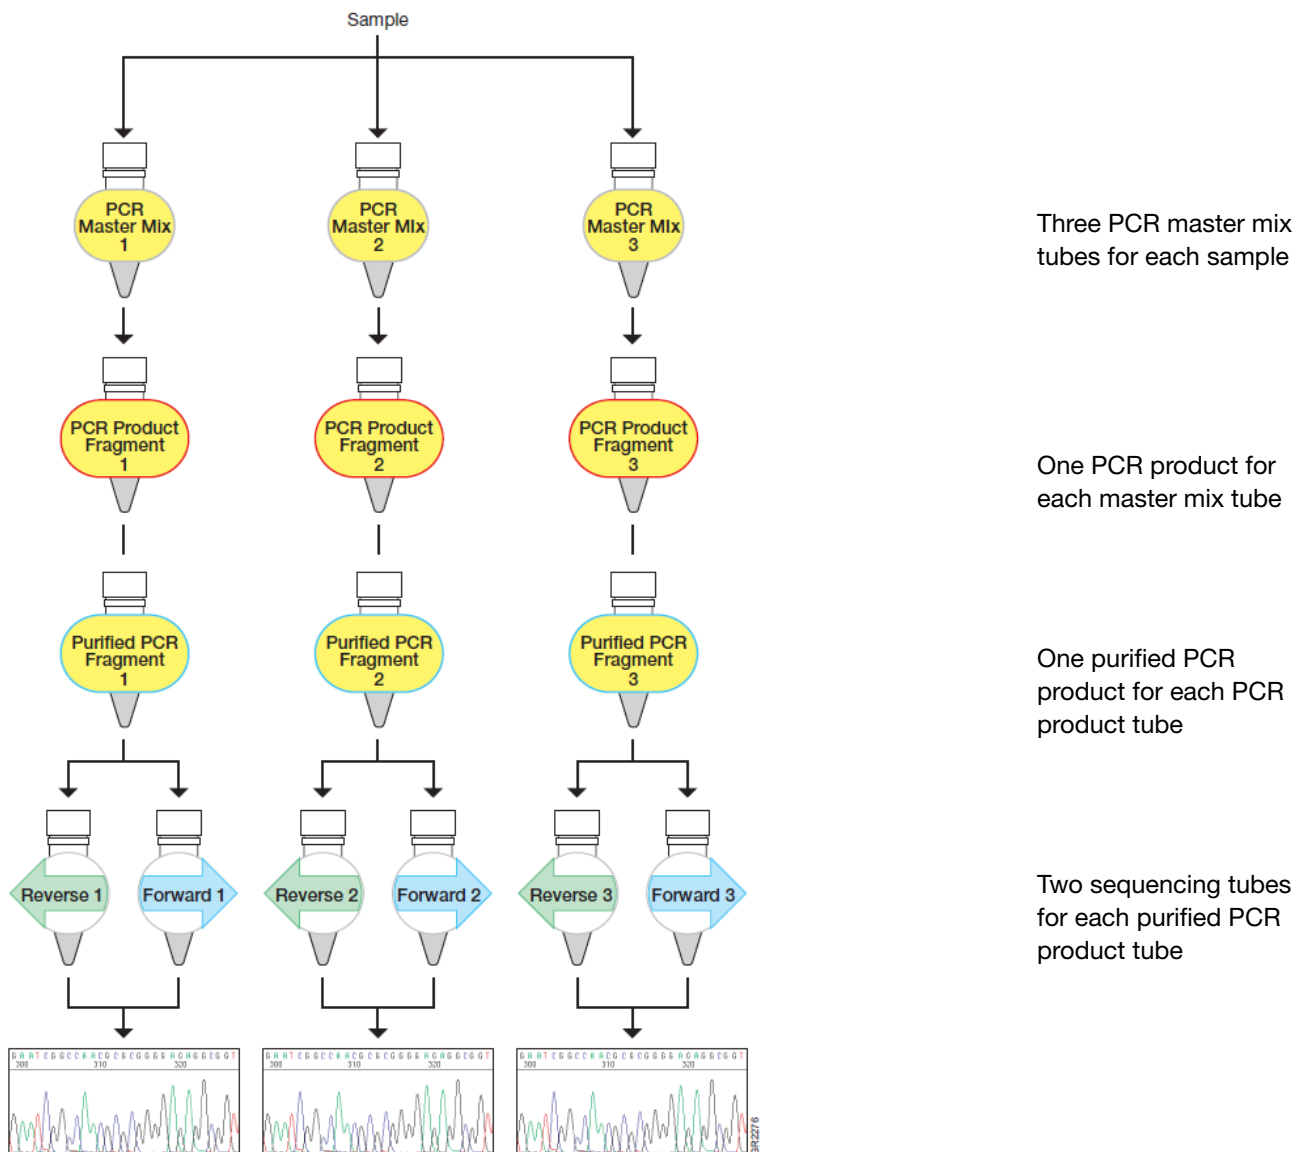

Figure 1 Use of PCR and sequencing kits
**IMPORTANT!** For each sample or control, prepare three PCR reactions, one for each of the three PCR Master Mixes. See Figure 1.
**IMPORTANT!** For each PCR product, use the Forward and Reverse Sequencing mixes that correspond to the PCR Master Mix used to amplify the PCR product. See Figure 1.